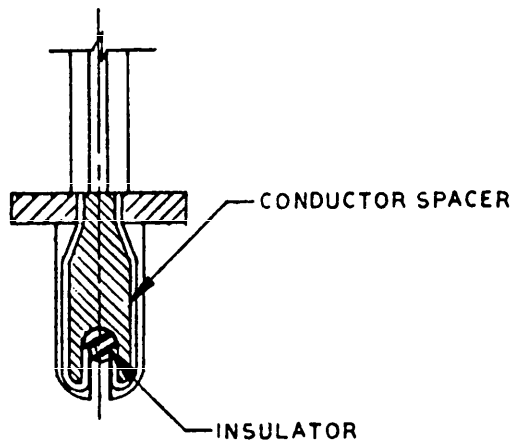

FIGURE 5. Insulator installation.
- D. Press insulator into the groove to retain the conductors and trim the insulator flush with the sides of the conductor spacer. See Figure 5 (Insulator Installation).